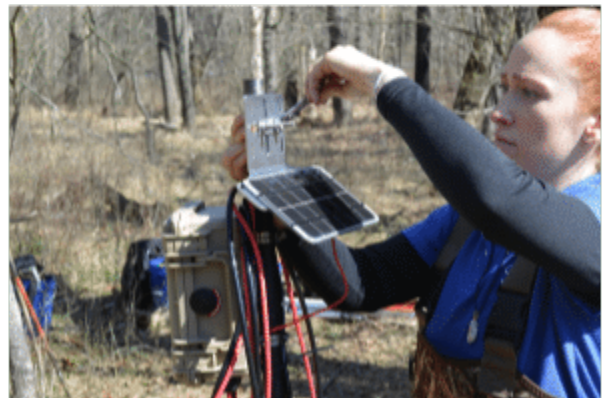

Figure 14: Attaching solar panel to post.
25. Attach the solar panel mounting plate with U-bolt and tighten by hand first, then with wrench (7/16"); don't over tighten, as the plate is aluminum and may bend (Figure 14).